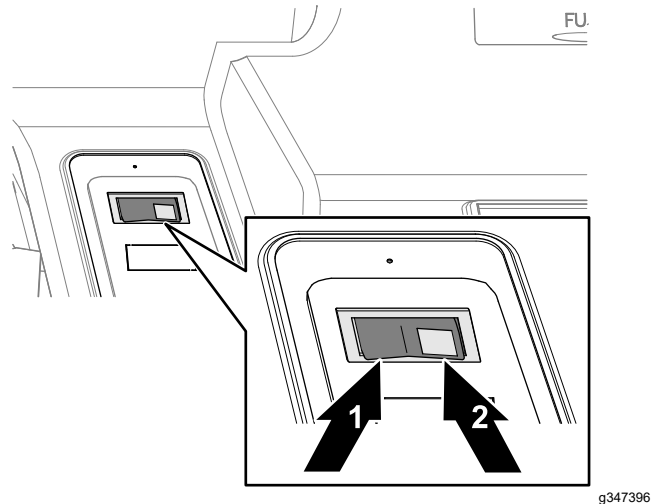

Figure 12
1. Press the right side of the switch to run the windscreen wipers (Figure 12).
2. Press the right side of the switch and hold it to run the windscreen washer (Figure 12).
3. Press the left side of the switch to shut off the windscreen wipers (Figure 12).